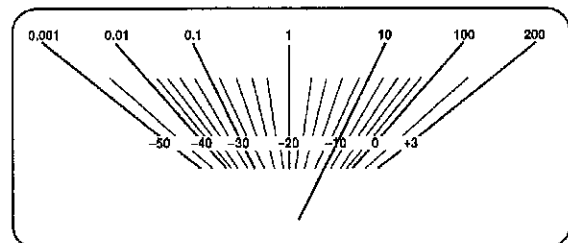

Fig.4
5. Adjust VR909 (L ch) and VR910 (R ch) so that the power meter indicates 10 W. (Shown in Fig.4)